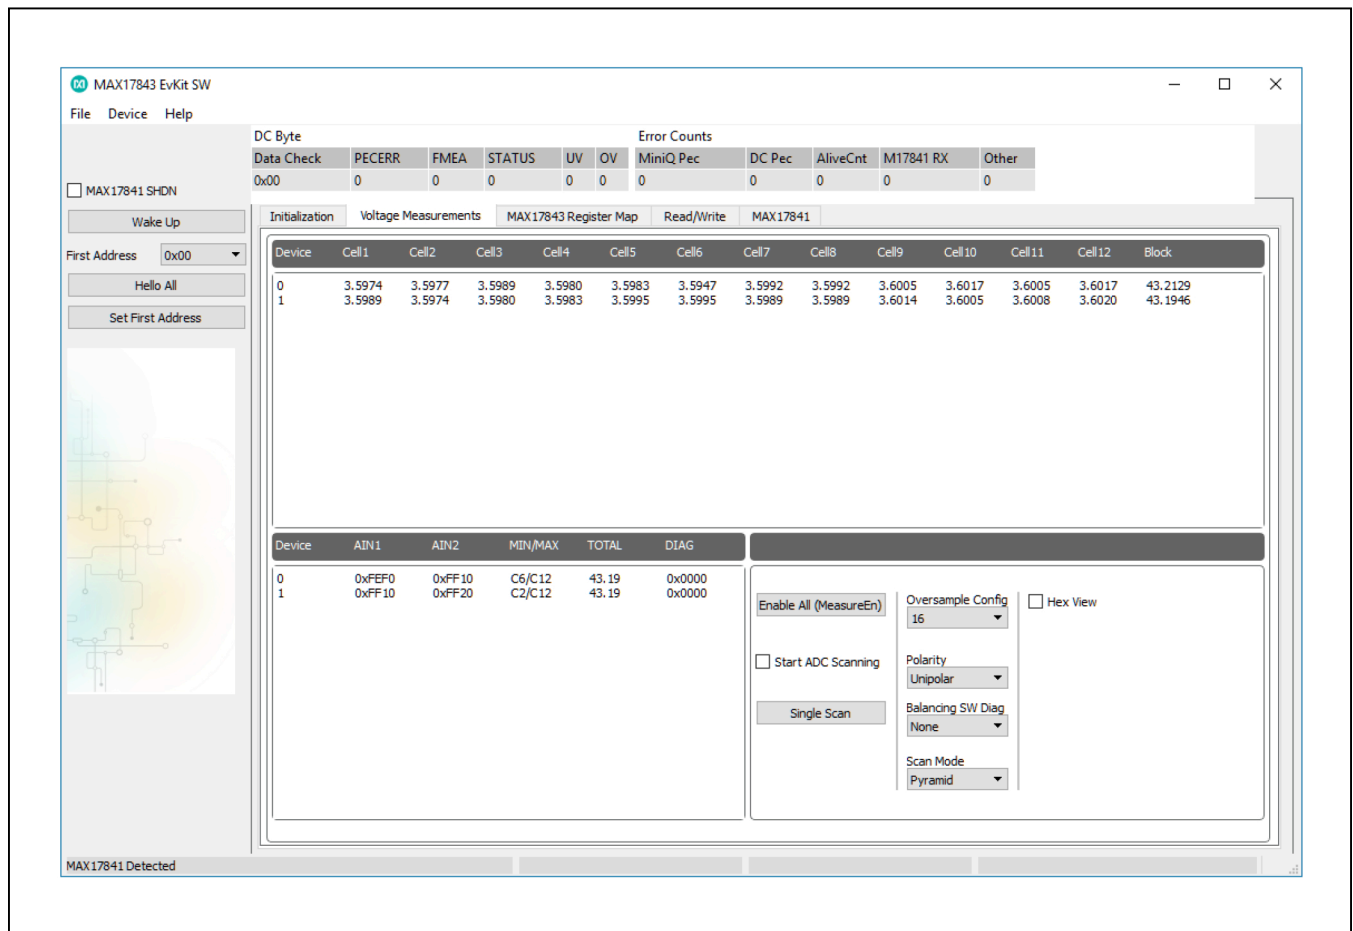

Figure 8. MAX17843 Evaluation Kit Software (Voltage Measurements Tab—Single Scan)
**Initiate a Single ADC Scan (Figure 8):**